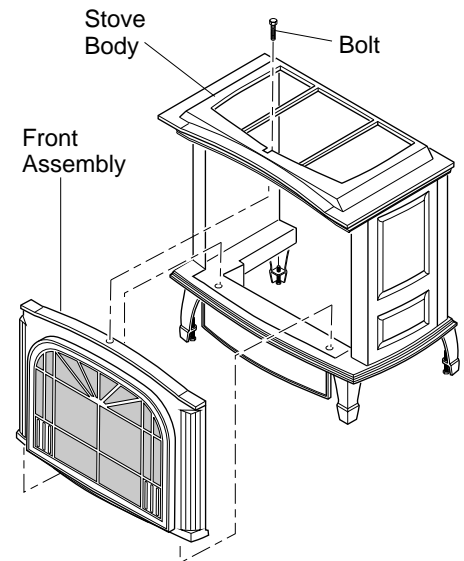

Figure 13 - Removing Front Assembly
13. Remove 2 bolts from bottom of stove and one from the top of the stove to remove the front panel assembly (see Figure 13). Save bolts.